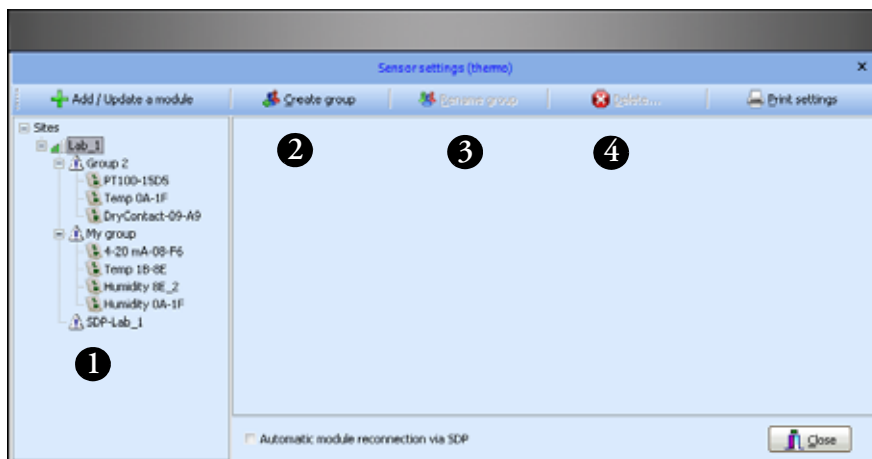

Figure 39. Sensor settings screen
- You may move a sensor from one group to another by dragging it to the desired location using your mouse in the tree hierarchy (#1 in Figure 39).